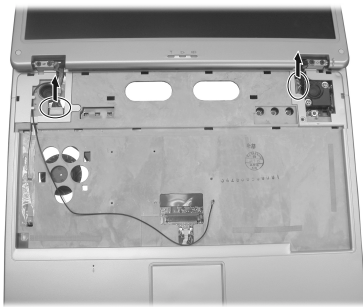

Figure 2-18 Disconnect the two cables
4. Disconnect the two cables from the system board. (Figure 2-18)